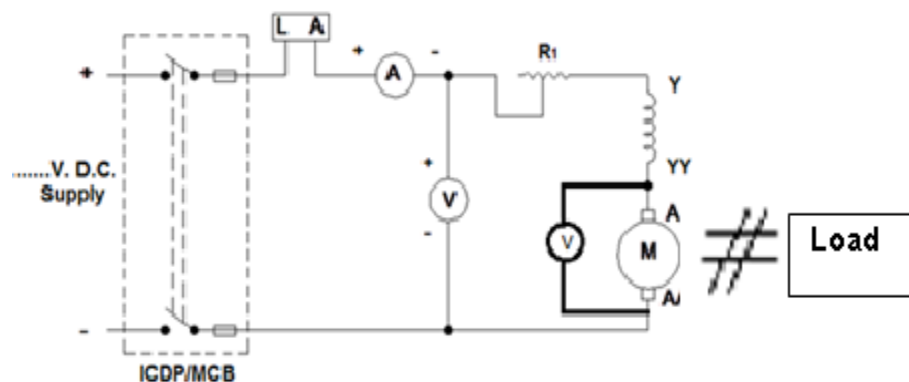

Fig. 1: Speed control of DC Series Motor by Armature Voltage Control Method
Part A: For Armature Voltage control method (Fig.1)
5. Make the connections as per circuit diagram shown in Fig.1
9. Note down speed (N), field current (I_f) and armature voltage (V_a).